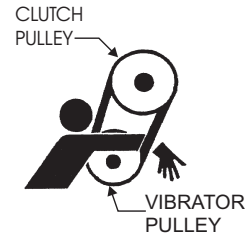

**Figure 30. Chain Tightener**
2. Check the chain tension and if loose, adjust the chain tension with the tightener (Figure 30). Chain tension should be adjusted every 50 hours of operation.
2. Pull out the stop key and turn to the release position (Figure 30).